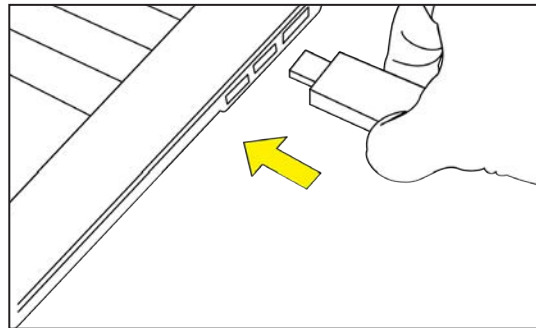

Figure 11. Inserting the USB transceiver into the computer.
STEP 2. Insert the USB transceiver into any USB port on the computer. See Figure 11. The installation process is automatic.